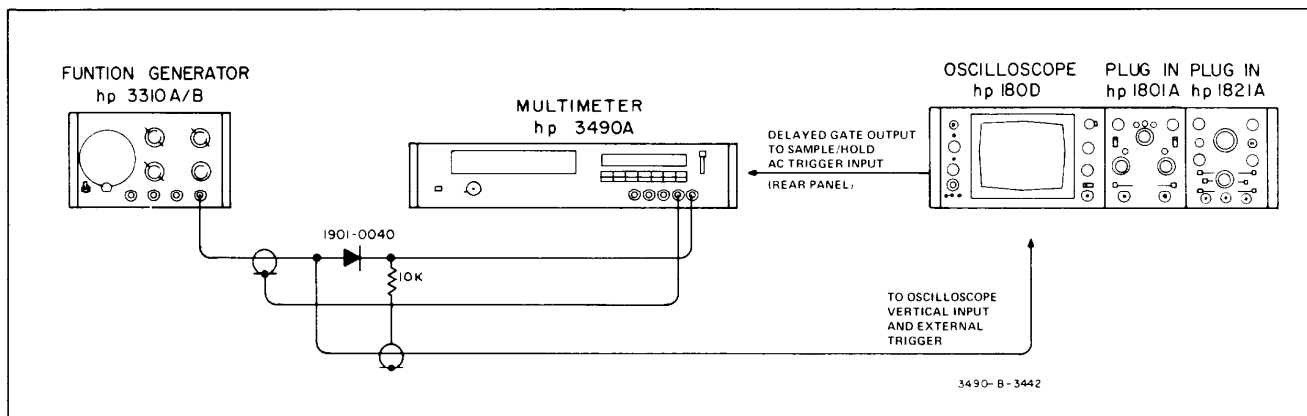

Figure 5-7. Sample/Hold Response Test.
a. Connect equipment as shown in Figure 5-7. If the 3490A has BCD/Remote Expand Option 020, also